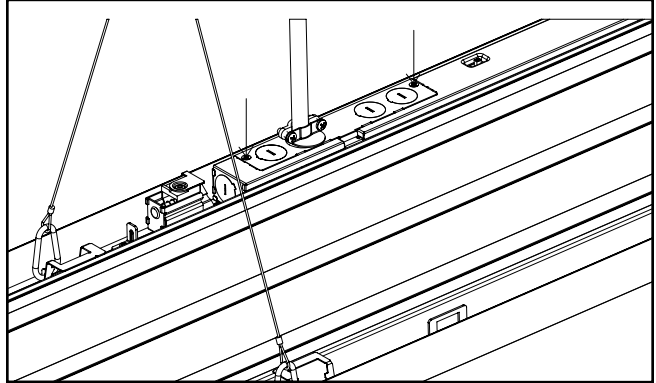

Figure 21.
10. Cover wires with access plate and re-install screws to finish installation (See Fig. 21).